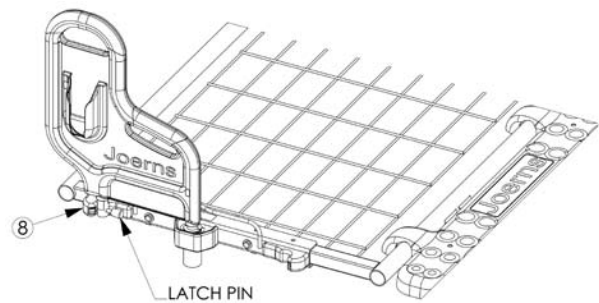

Figure 11
3. Lock the assist handle by engaging the latch pin into the latch (item 6) (Figure 11).